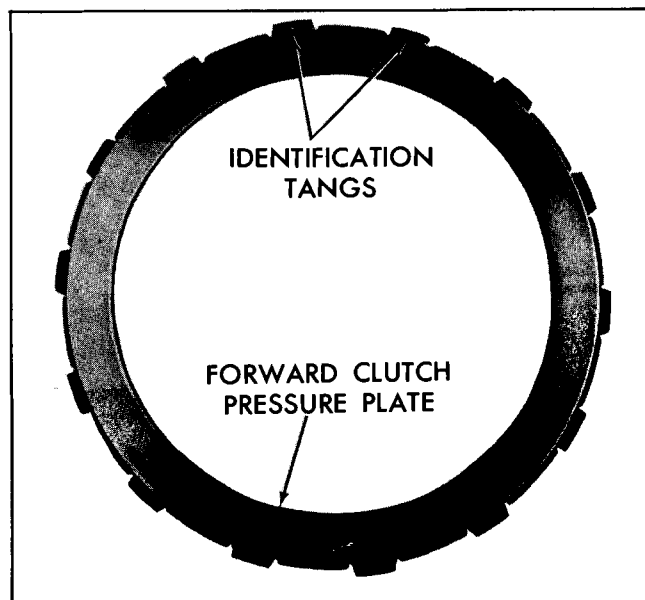

Fig. 7G-114 Pressure Plate Identification
On 6 cylinder models, install cushion spring and, starting with a steel plate, alternately install four (4) steel and four (4) faced plates into the forward clutch drum (Fig. 7G-107).